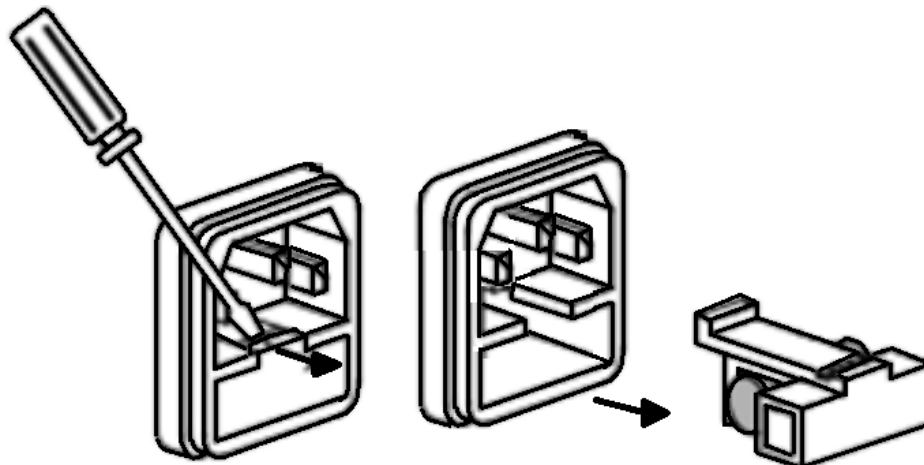

Figure 2.1 Fuse Removal
- Step 2.** Insert a small flathead screwdriver into the fuse box slit to slide out the fuse box as illustrated in figure 2.1.